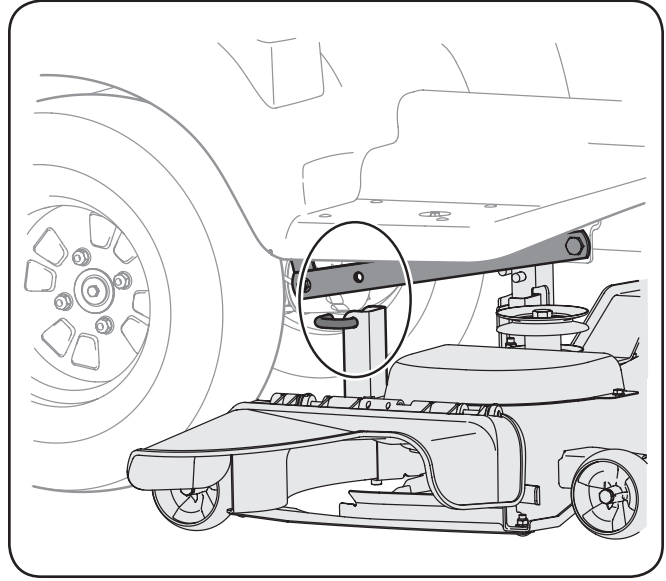

Figure 7-5
3. Align the tractor's lift links with deck support pins found on the rear deck brackets. See Fig. 7-5.